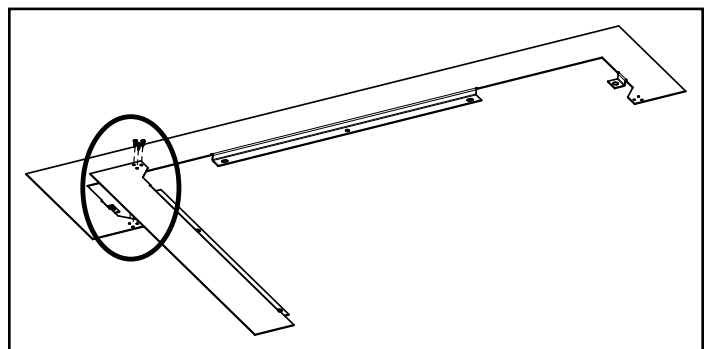

Figure 5.14
1. Align holes from Surround Extension RH Side and Surround Extension Top (**Figure 5.14**).
2. Using a Phillips head screwdriver and three (3) #8 x 1/2 Phillips head screws; secure Surround Extension RH Side to Surround Extension Top (**Figure 5.14**).